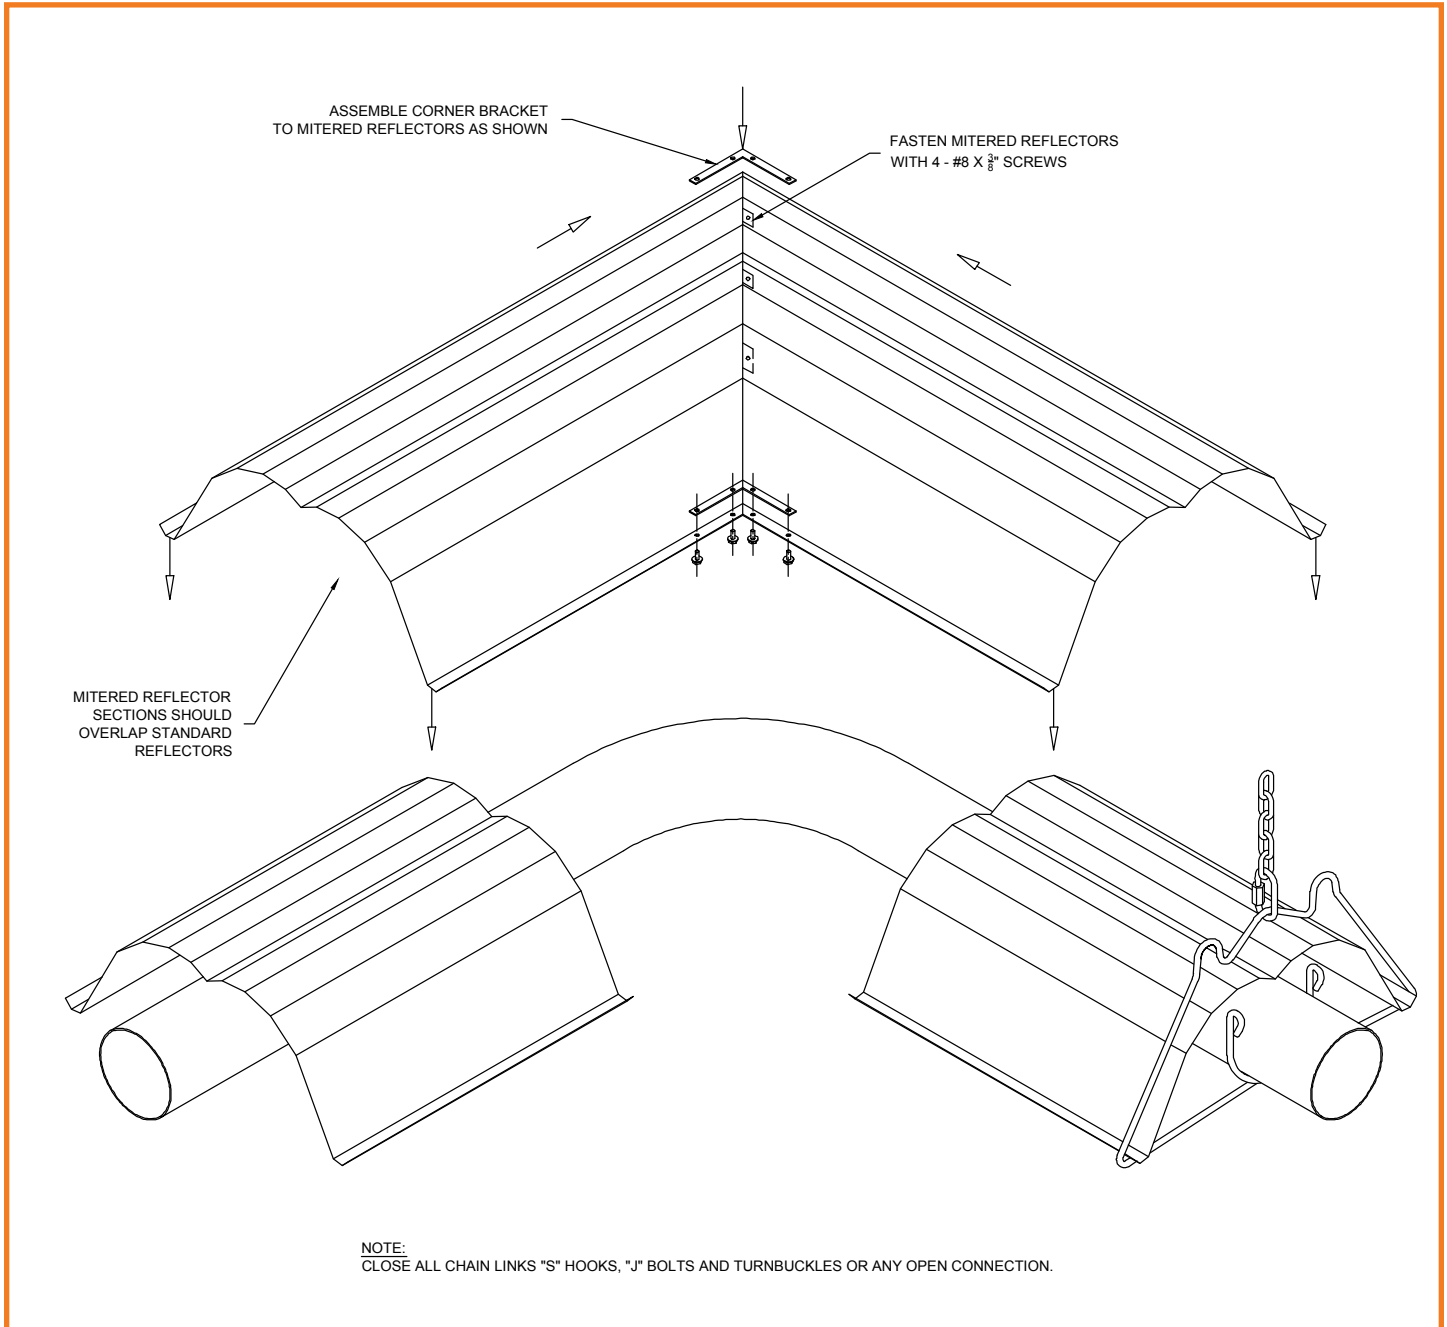

Figure 20: Mitered Reflector Installation
**Note:** Elbows or U-bends are typically installed without reflectors. To reduce the above clearance to combustibles distance use miter reflectors (see Figure 20) and refer to *Clearance to Combustibles* information.
- If used, install the Mitered Reflector as shown below in Figure 20.